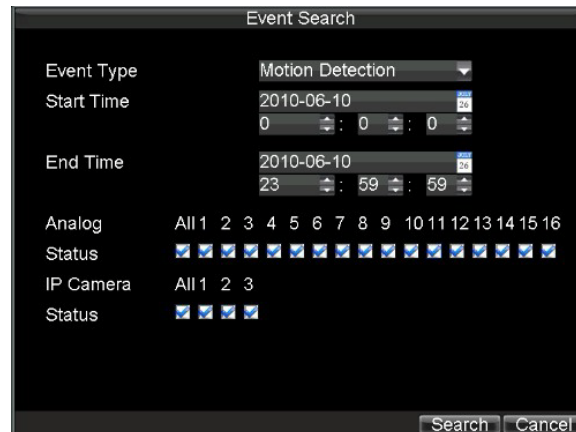

Figure 6. Event Search Menu
1. Enter the Event Search menu (shown in Figure 6) by clicking Menu > Event Search